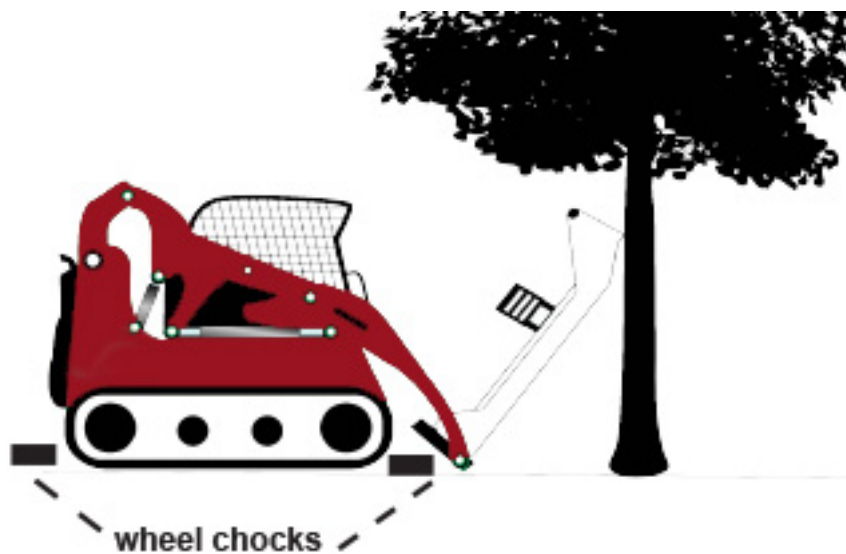

Figure 4.4a - Brush Cutter Deck Supported By Tree
4. SECURE the front end of the cutter deck with an overhead hoist and chain. If you are performing this procedure in the field, lean the cutter head against a large, stable tree that has a diameter of at least 10 inches (see **Figure 4.4a** below).